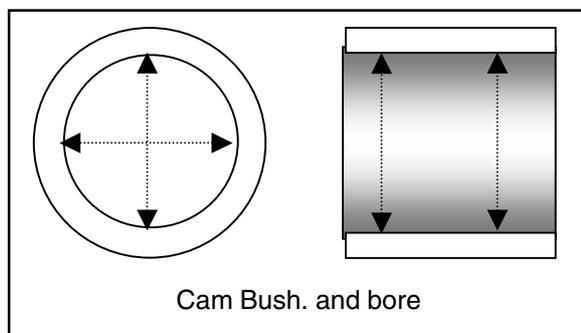

Fig.9-3
- With a dial gauge check the Internal diameter of the G.E. cam bush at 2 planes and at right angle. Fig.9-3. Similarly measure the cam bores. Compare the recorded values with the specification. (Refer to Specification Data.) Replace the bush if required.